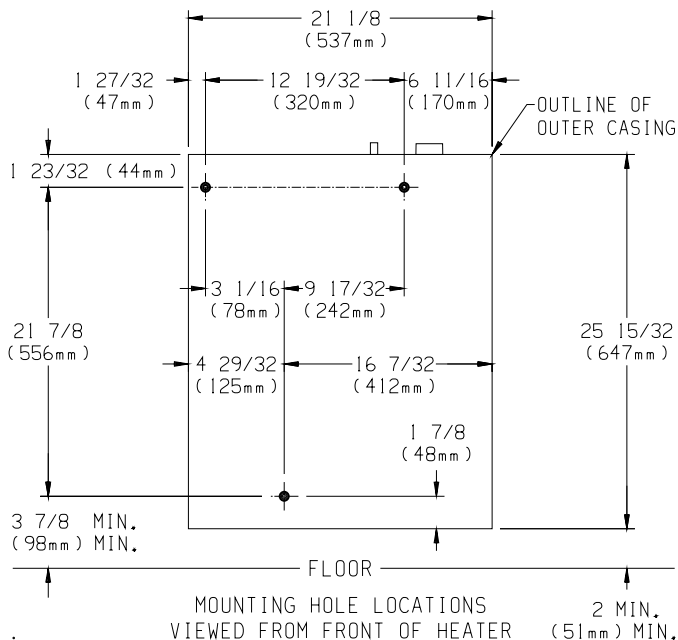

Figure 7
Refer to Figure 7 for measurements in order to locate (3) mounting holes on wall. Figure 7 is the **front** view of the heater.